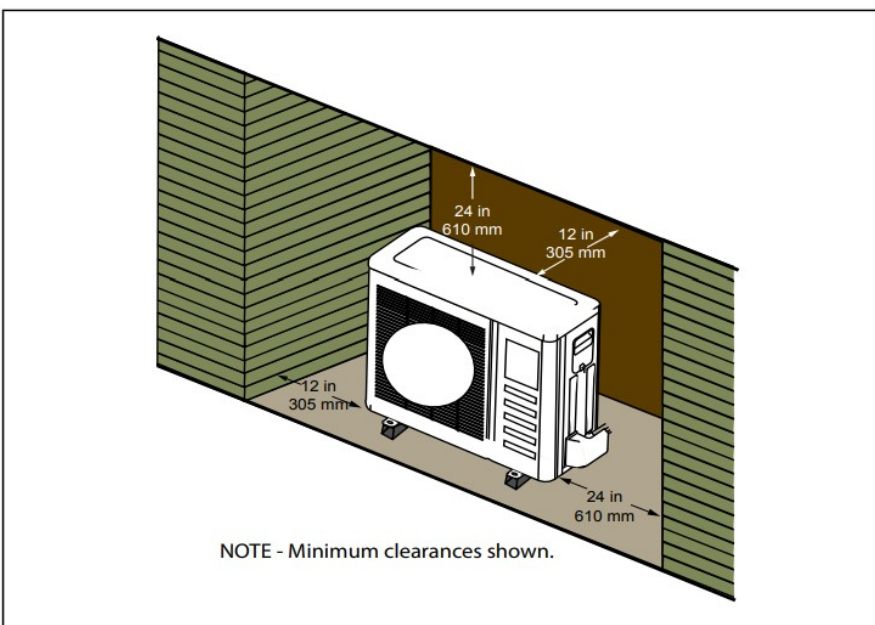

Figure 29. Unit installed in Alcove
- Outdoor unit can be installed in a alcove or under a roof overhang as illustrated in “Figure 29. Unit installed in Alcove”.